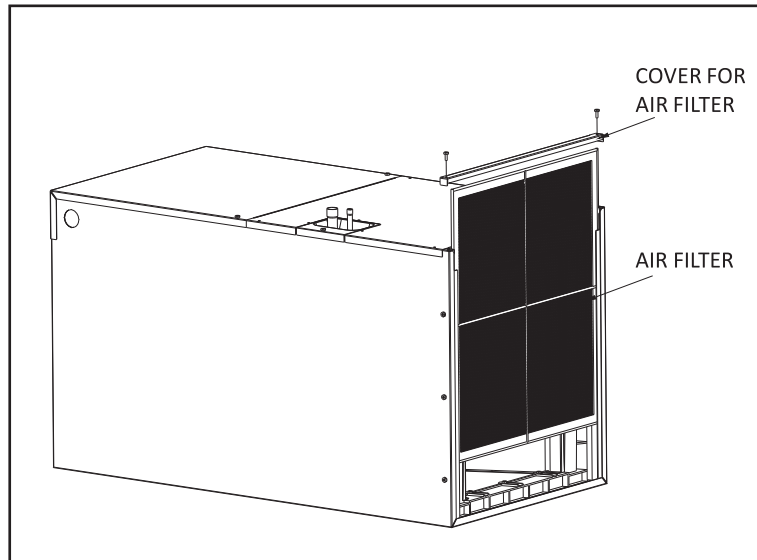

Fig. 6 External Filter Base
- 1.) Remove the two bolts marked A and B. Then remove the cover for air filter (Refer to Fig. 6).